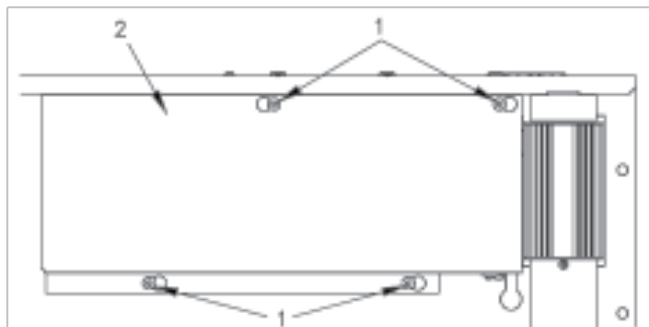

Figure 33 Remove Door Operator Board Cover
- 1) Loosen the four screws (1) and remove the door operator board cover (2). See Figure 33.